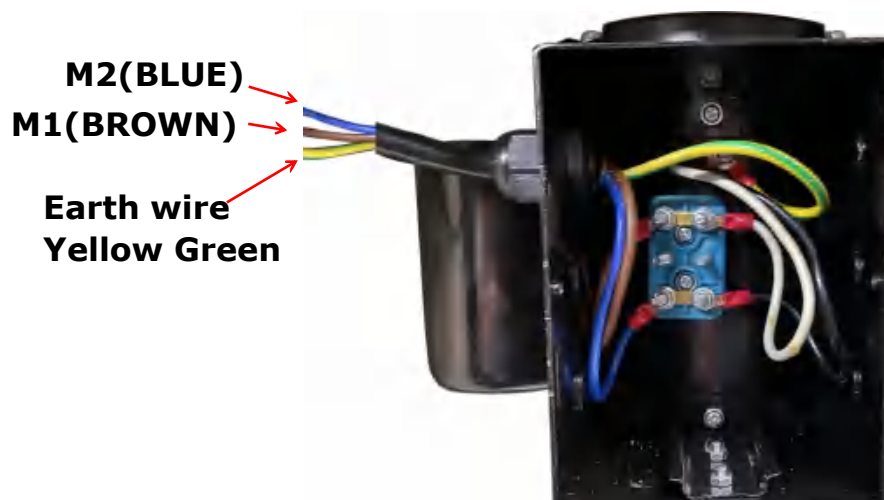

Fig. 37
3.2 Single phase Wire connection of hydraulic power unit (**See Fig. 37**).